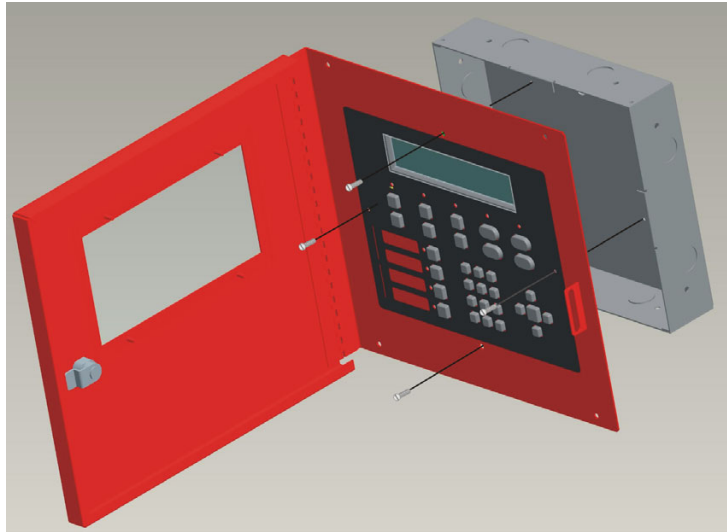

Figure 4.14 Attaching Annunciator / Door Assembly to Backbox
- Attach the annunciator and door assembly to backbox as shown in Figure 4.14 using the supplied screws.
- Attach the annunciator and door assembly to the backbox using screws provided (see Figure 4.14).
4. Attach the annunciator/ door assembly to backbox as shown in Figure 4.14 using the supplied screws.